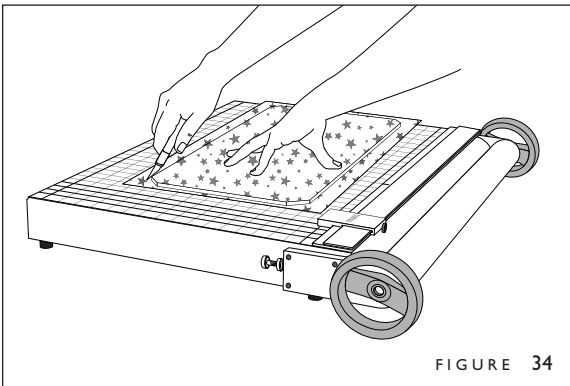

FIGURE 34
3. Using a sharp utility knife, carefully cut around the edges of the template (Figure 34).